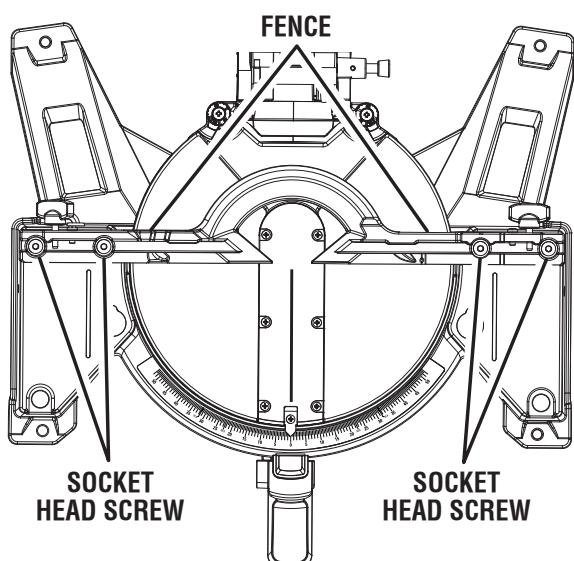

Fig. 18
- Using the supplied 5 mm hex wrench, loosen the socket head screws that secure the fence to the miter table. *See figure 18.*